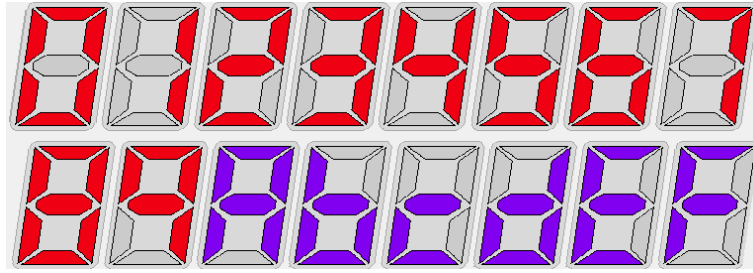

Figure 14: 7 segment displays showing all combinations for 0-9 and A-F
- Figure 14 shows how to correctly display all the required characters.